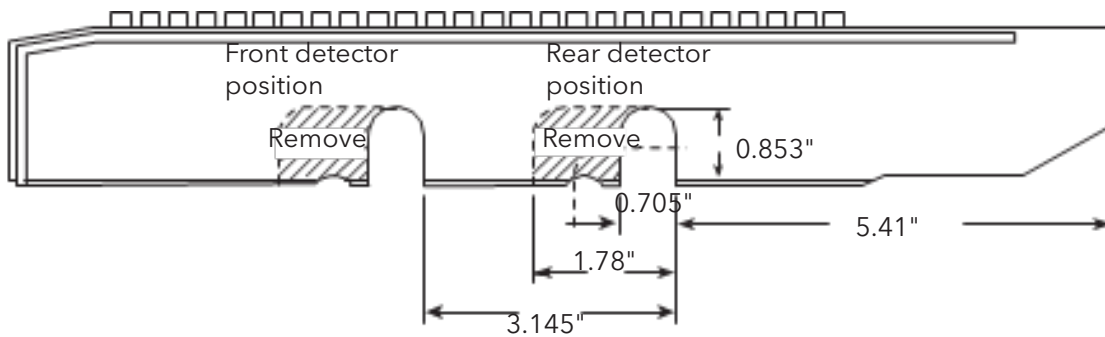

Figure 3.3. Preparing the Top GC Cover
8. Cut a hole in the top GC cover (Figure 3.3).